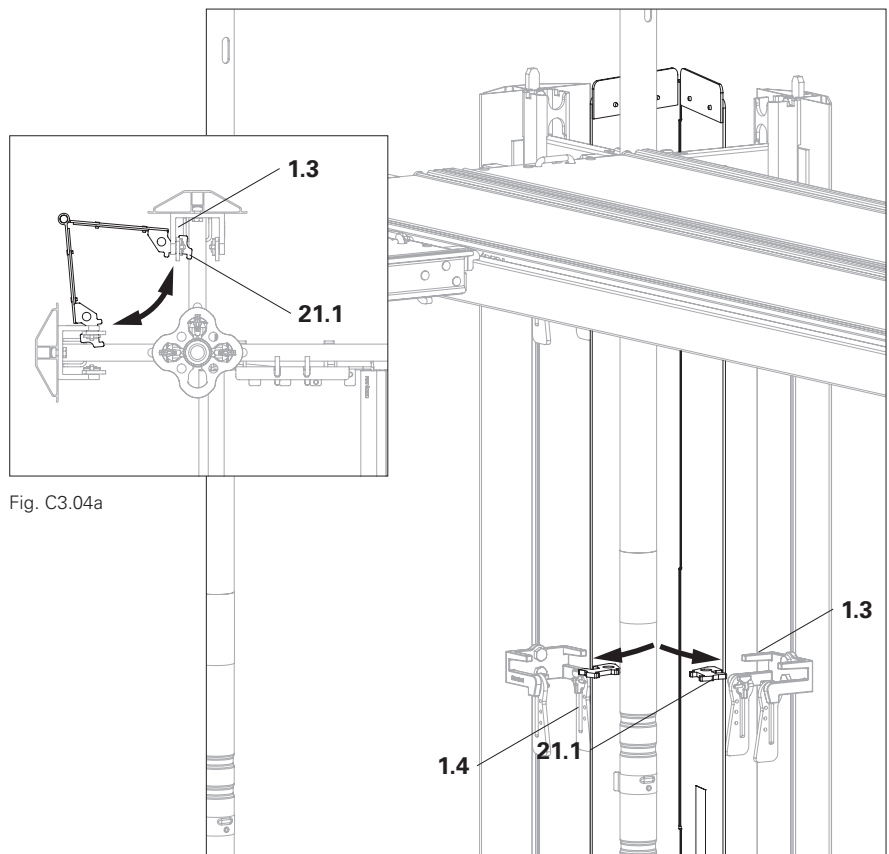

Fig. C3.04
4. Swing up the wedges (**1.4**) and lock the lugs and secure with jarring blow. (Fig. C3.04 + Fig. C3.04a)